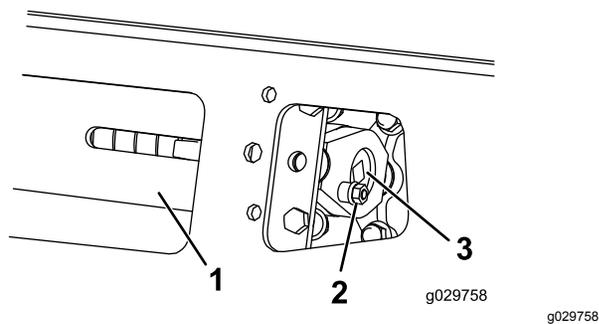
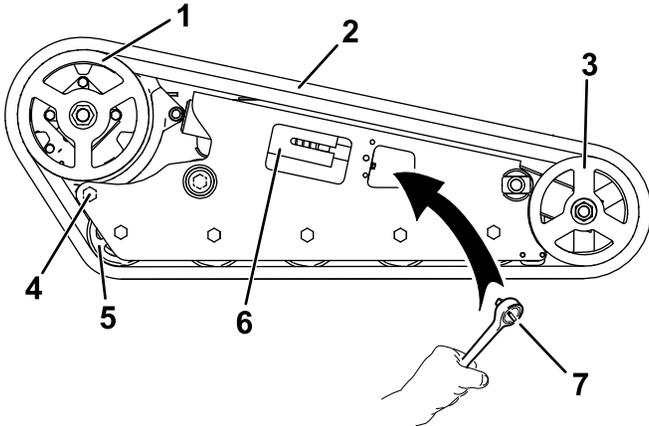

Figure 59
Figure 65
3. Remove the locking bolt, spacer, and nut (Figure 59).
5. Align the closest notch in the tension screw to the locking-bolt hole and secure the screw with the locking bolt and nut (Figure 59).
4. Remove the locking bolt and nut (Figure 59).
5. Using a 1/2-inch drive ratchet, release the drive tension by turning the tensioning screw clockwise (Figure 59 and Figure 65).
6. Loosen the rear bolt, near the drive wheel (Figure 65).